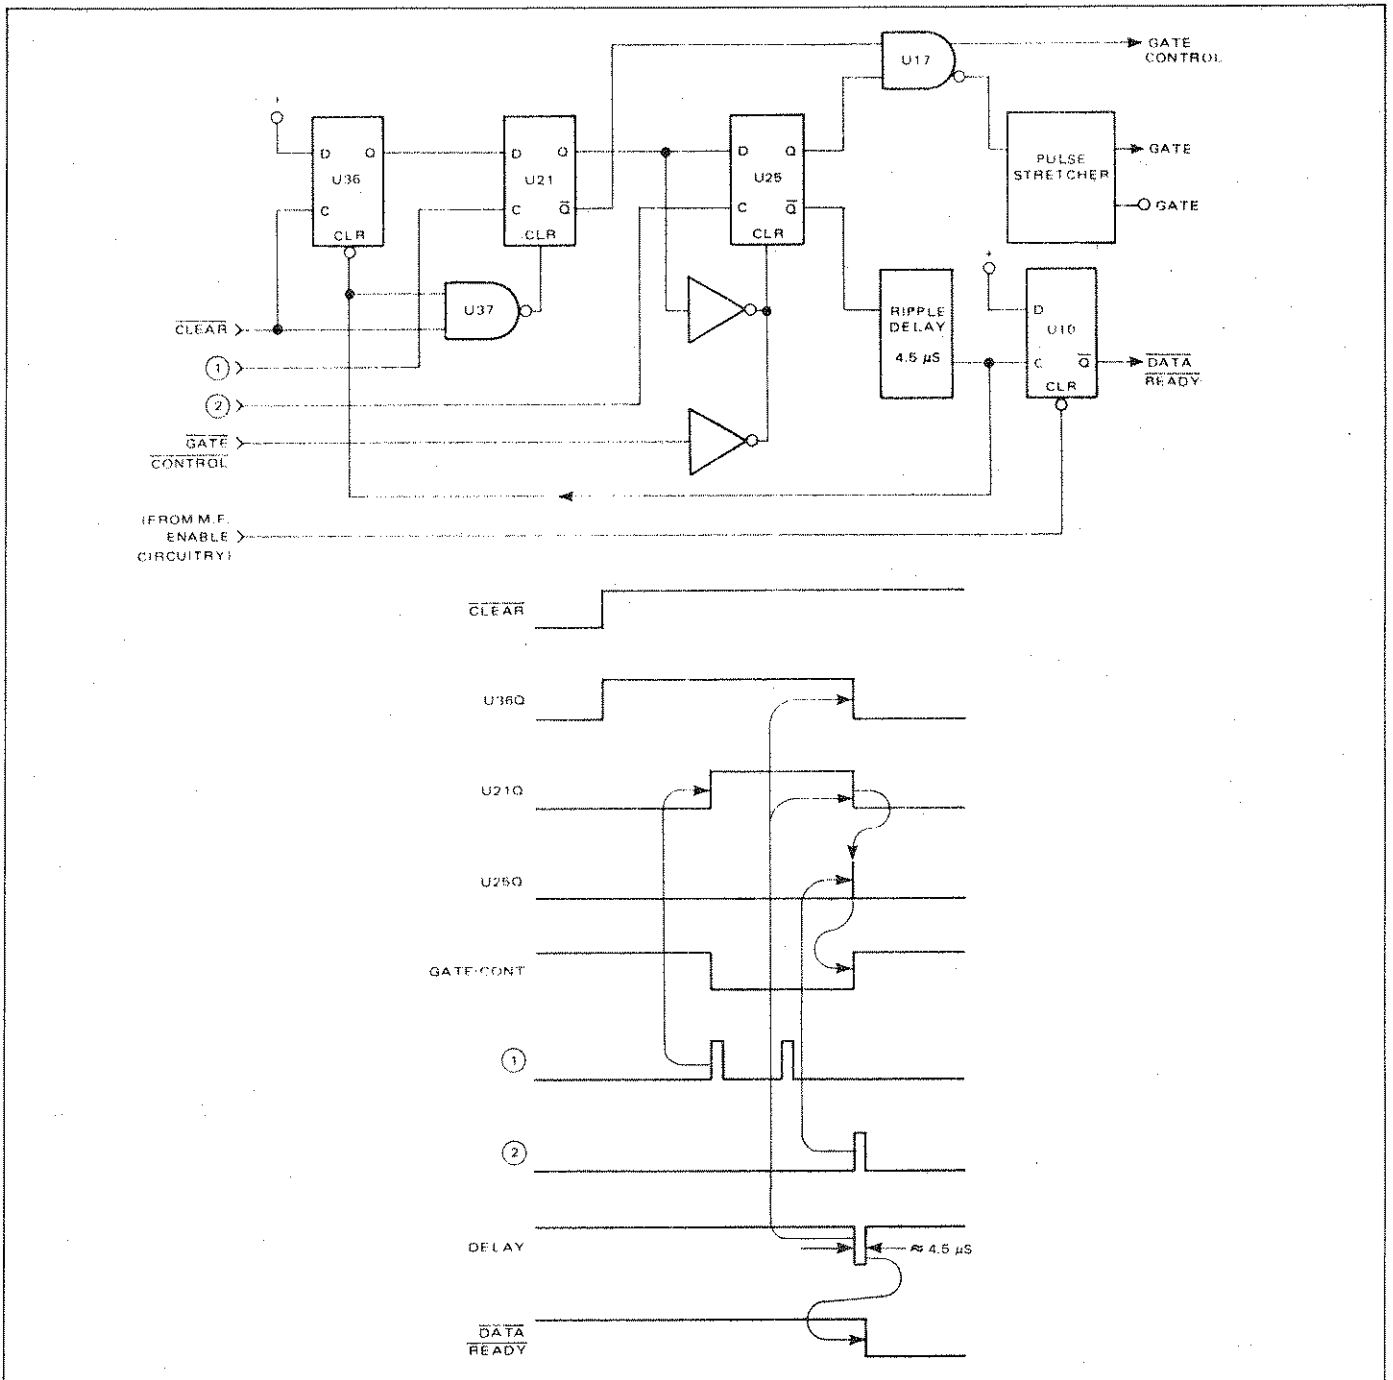

Figure 4.21 - Gate Control
control signal, the DATA READY signal, the gate light control signal, the GATE signal on the rear panel, and, with PARALLEL ENABLE, the UPDATE signal. Referring to figure 4.21, the circuitry is armed when CLEAR goes high setting U36Q true. A positive going edge at input ① sets U21Q high and U21Q-bar low setting the gate control signal false and enabling the GATE circuit. This state continues regardless of what the ① input level is. A positive going edge at ② sets U25Q high, setting the gate control signal false and inhibiting the GATE circuit. At the same time U25Q-bar goes low generating a 4.5 microsecond negative going